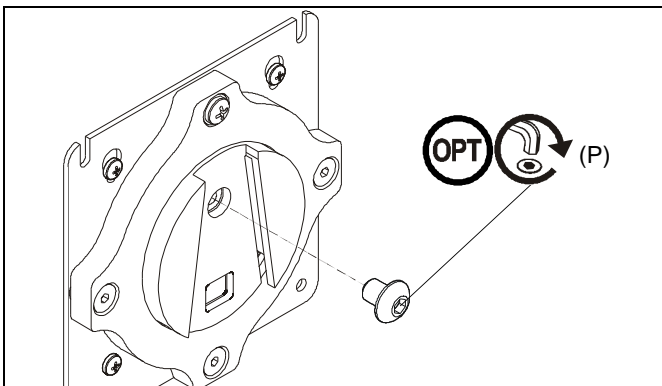

Figure 11
NOTE: (Optional) Rotational adjustment may be locked by installing rotational locking screw (P) into back of faceplate. (See Figure 11)